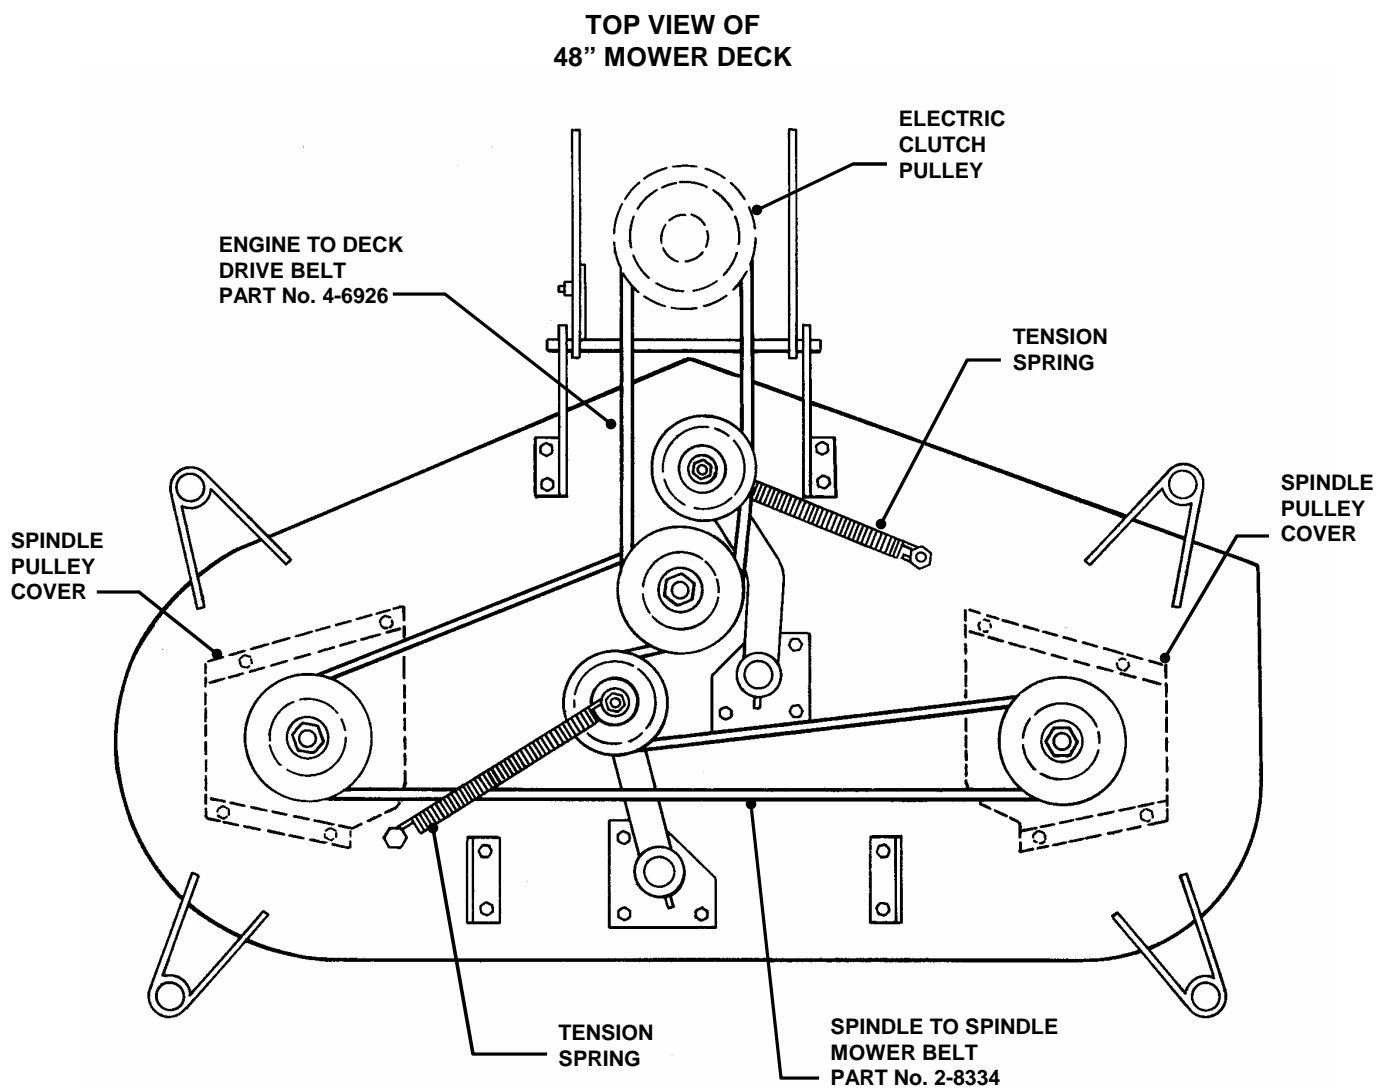

FIGURE 4.35
4. Remove deck idler tension spring. Remove nuts that secure the spindle pulley covers. See Figure 4.35.